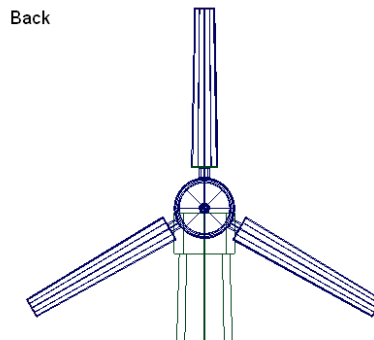

Figure 3-99 Model after creating all instances of grouped entities
4. Similarly, create the third instance of the grouped entities, as shown in Figure 3-99.